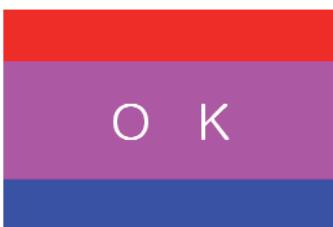

Fig.2
- (2) Press 'OK' key as a 3D input OSD is shown.
- (3) Check pattern as Fig2 without 3D glasses. (3D mode without 3D glasses)